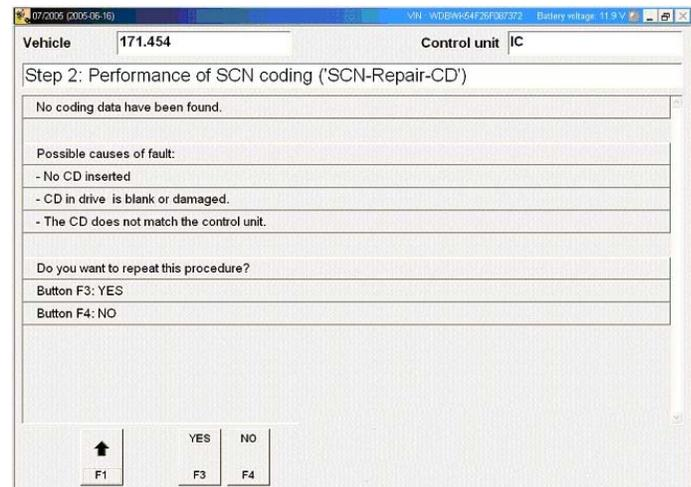

Figure 15
2. If the CD is **NOT** being read properly, you will see the following screen (Figure 15). Ensure that the CD is in the SDS, and press 'F3' to retry the procedure (Figure 15).